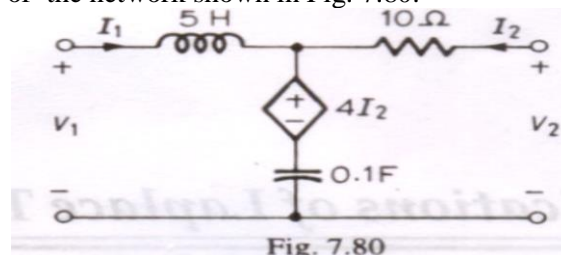

Fig. 7.80
15. Find the z-parameters of the network shown in Fig. 7.80.